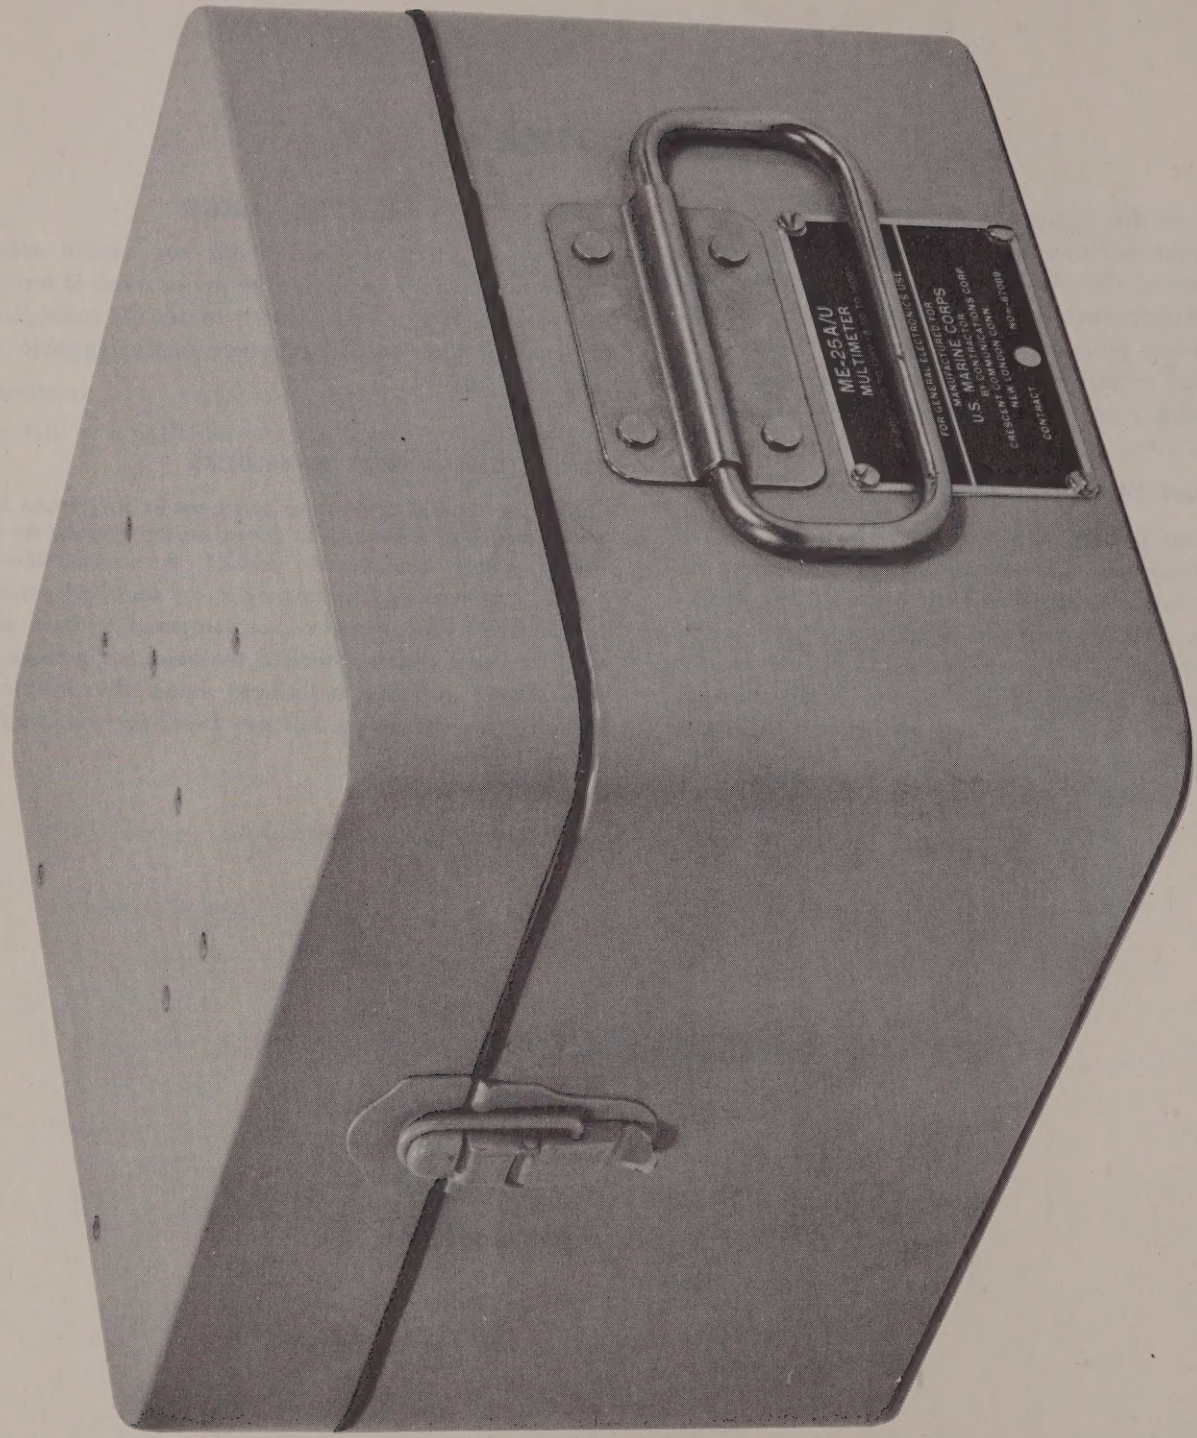

Figure 1-1. Multimeter ME-25A/U with Cover in Place
a. PHYSICAL.—Multimeter ME-25A/U, as shown in Figure 1-1, has a Marine Corps green case and panel with white designations. All switches and connectors are clearly designated and the large meter has scales easily readable. The case is furnished with a steel bail-type handle at one end and four extruded metal feet at the other. A special compartment for carrying and storing all cables and test leads is in the cover.